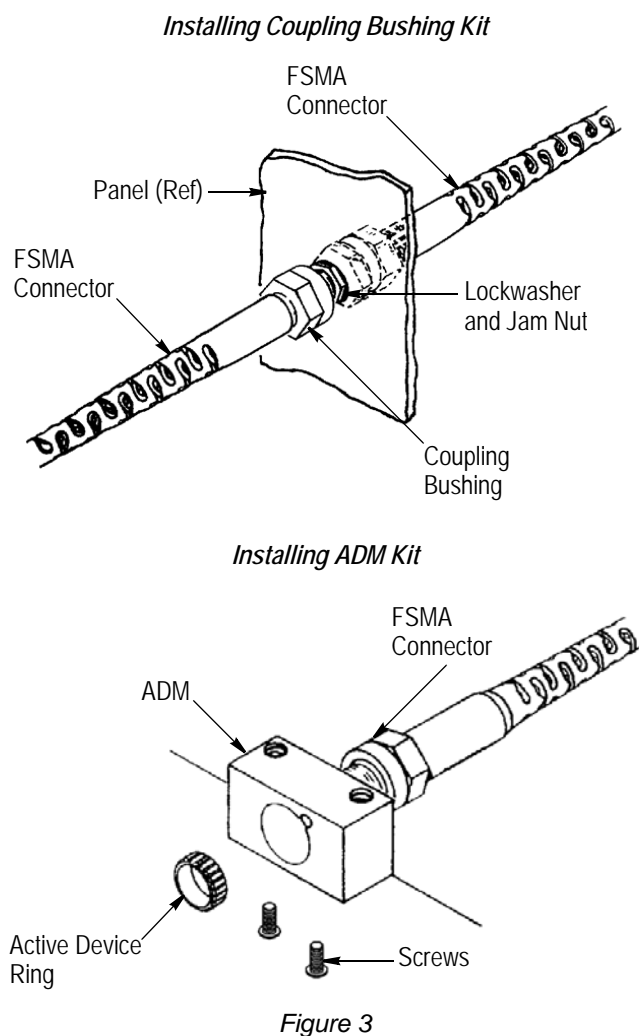

Figure 3
4. Mate an FSMA connector to the coupling bushing. Refer to Figure 3. For FSMA 906 (Type II) connectors, install the long alignment sleeve.
- Mate an FSMA connector to the ADM. Refer to Figure 3. For FSMA 906 (Type II) connectors, install the short alignment sleeve.